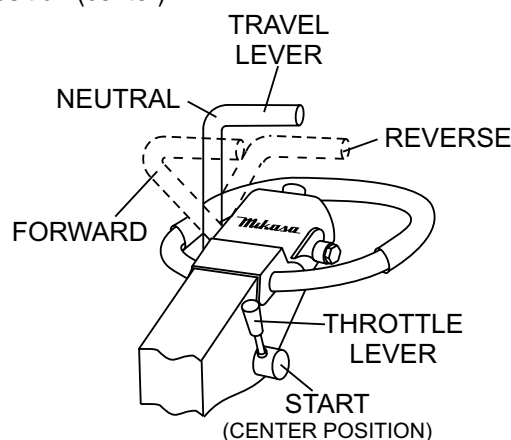

Figure 13. Travel/Throttle Lever (Start Position)
4. Place the throttle lever (Figure 13) in the START position (center). Place the travel lever in the neutral position (center).
- Place the throttle lever (Figure 13) in the START position (center).
1. Return the throttle lever to the **START** position (Figure 13). Allow the machine to cool down for 2 to 3 minutes.